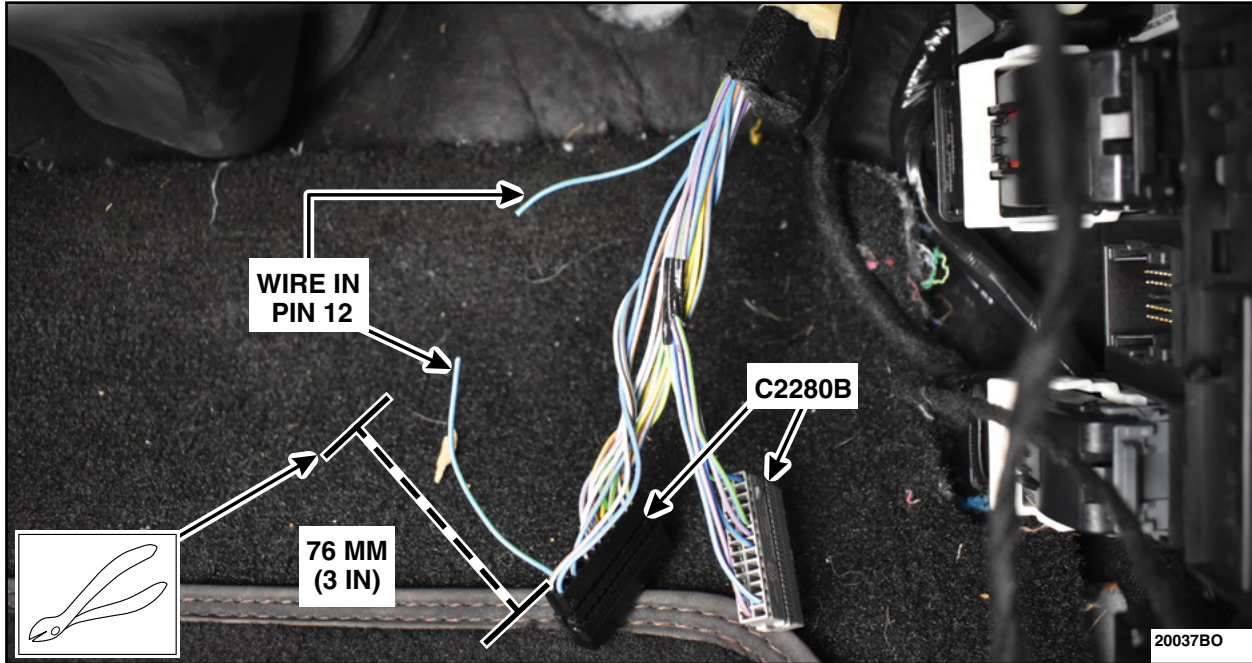

FIGURE 36
54. Measure and cut the pin 12 wire 76 mm (3 in) from the back of the black C2280B. See Figure 36.